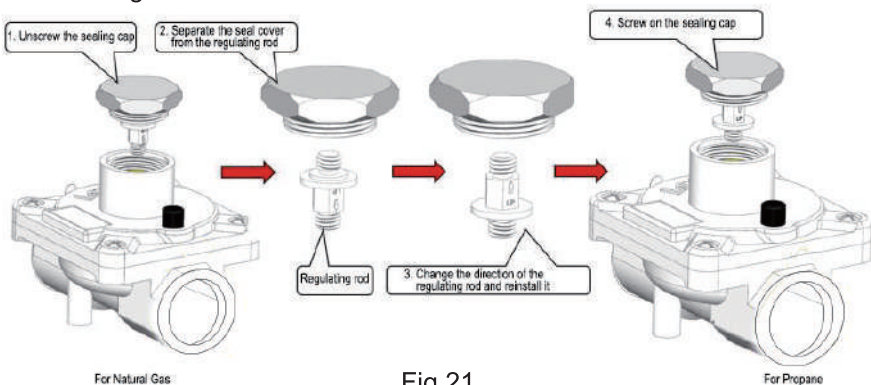

Fig.21
6. Test the outlet pressure, the pressure is required to be  $10 \pm 1$  in w.c. If it cannot meet the scope of the requirements, need to unscrew the pressure regulator nut as Fig.21, rotate slightly to adjust the white plastic parts inside the pressure regulator.
8. Similarly, when use in NG status, turn the marked NG arrow upwards and tighten it to the screw cap(Fig.21). Repeat the above operation. The outlet pressure requires to be  $4 \pm 1$  in w.c.